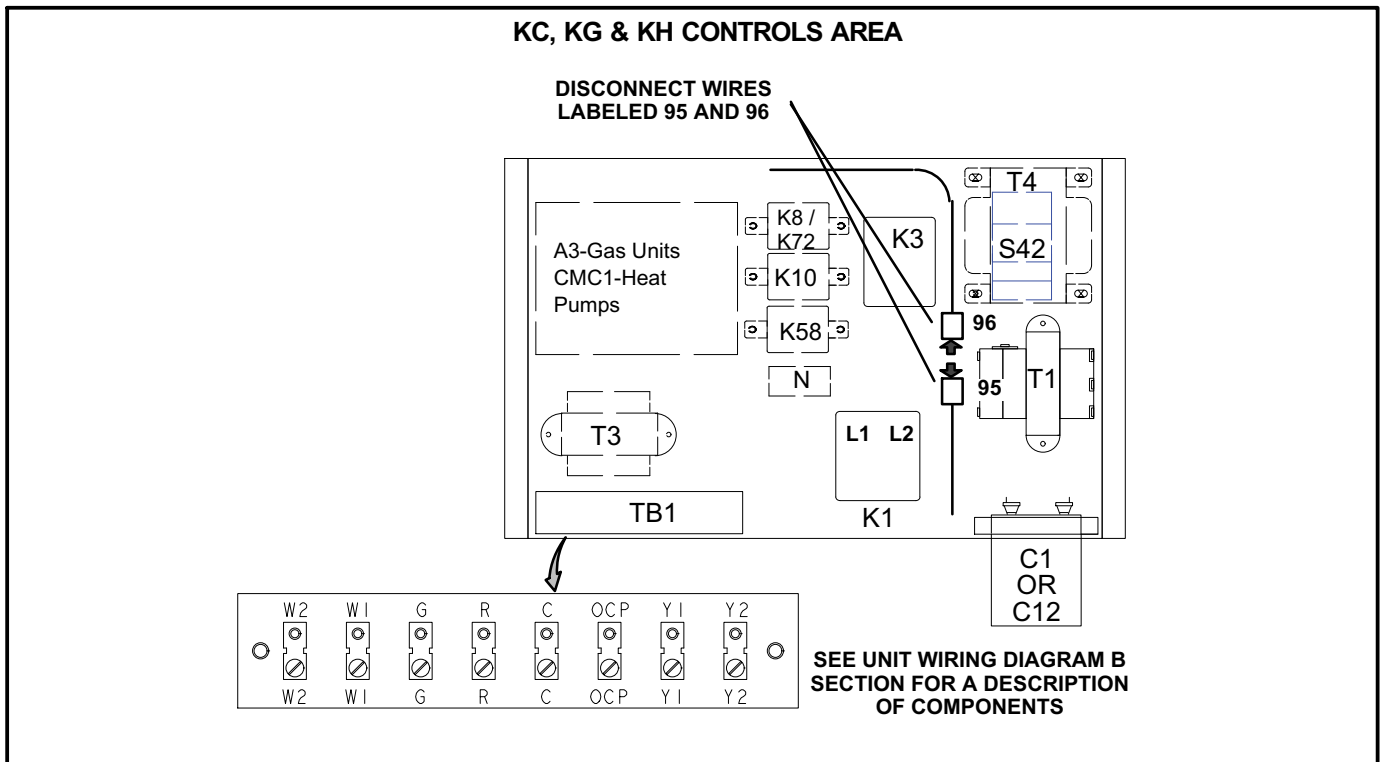

FIGURE 7
- 1 - Locate and disconnect wires labeled 95 and 96 in the control area above compressor. See figure 7.